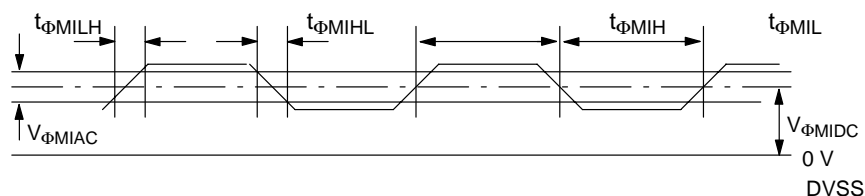

Fig. 4–18: Main clock input
4.6.7. 5 MHz Clock Input (see Fig. 4–19)